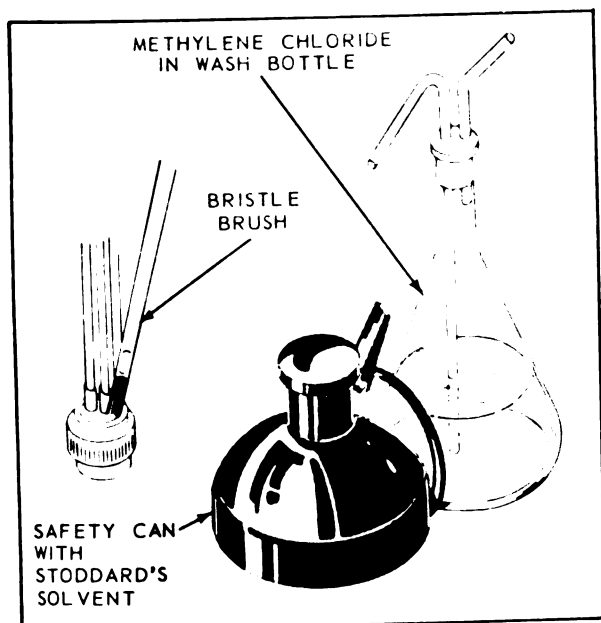

Figure 3-53. Cleaning Connector Prior to Potting
- d. Clean the complete connector assembly by scraping off rosin and then brush vigorously in new unused Stoddard's Solvent followed by second rinse in clean Stoddard's Solvent. See figure 3-53.